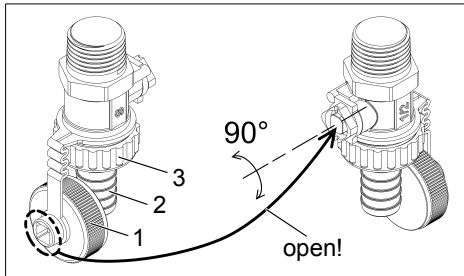

Fig. 8: Safety ball valve
The filter comes delivered with the ball valve closed and capped. Before opening the ball valve, remove the cap (1), then insert the spout (2) and fix it in place with the union nut (3). The ball valve may now be opened by means of the cap (see fig. 8).